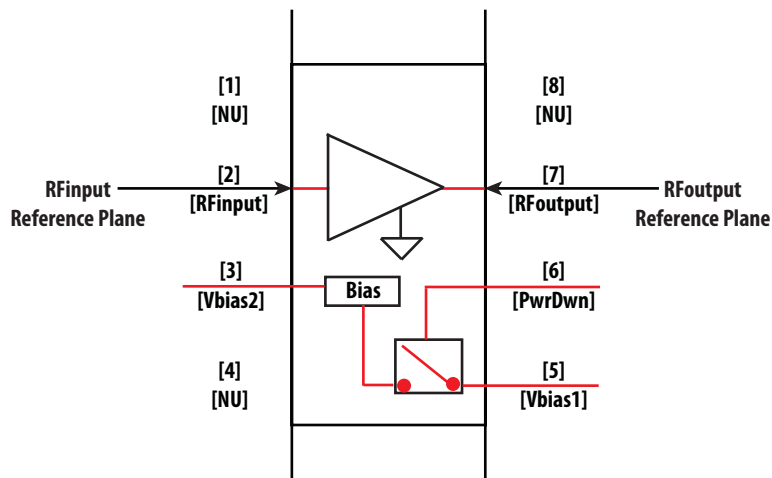

Figure 25. RFinput and RFoutput Reference Plane
2. Scattering and noise parameters are measured on coplanar waveguide made on 0.010 inch thick ROGER 4350. The input reference plane is at the end of the RFinpin pin and the output reference plane is at the end of the RFOutpin pin as shown in Figure 25.